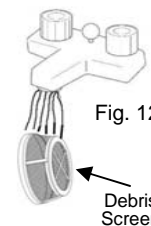

Fig. 12
7. "TapClean" the debris screen or rinse under a faucet until clean. (Fig. 12) Remember that the debris screen must be completely dry before reinstalling in the vacuum.